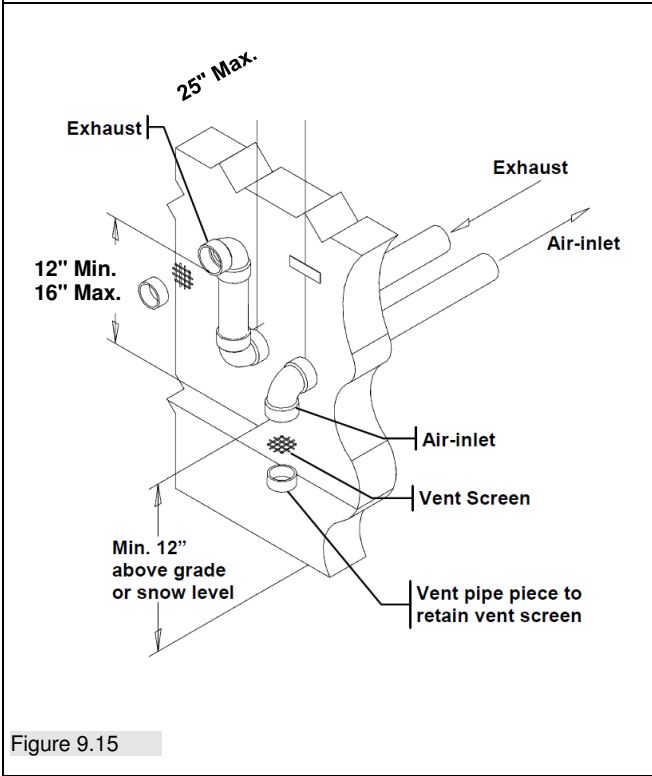

Figure 9.15
3. When using two pipe terminations the air intake piping must terminate in a down-turned elbow as shown in Figure 9.15 and 9.16. This arrangement avoids recirculation of flue products into the combustion air stream.
4. The exhaust piping must terminate horizontally in a section of straight pipe or an elbow pointed outward or away from the air inlet, as shown in Figure 9.15 and 9.16.